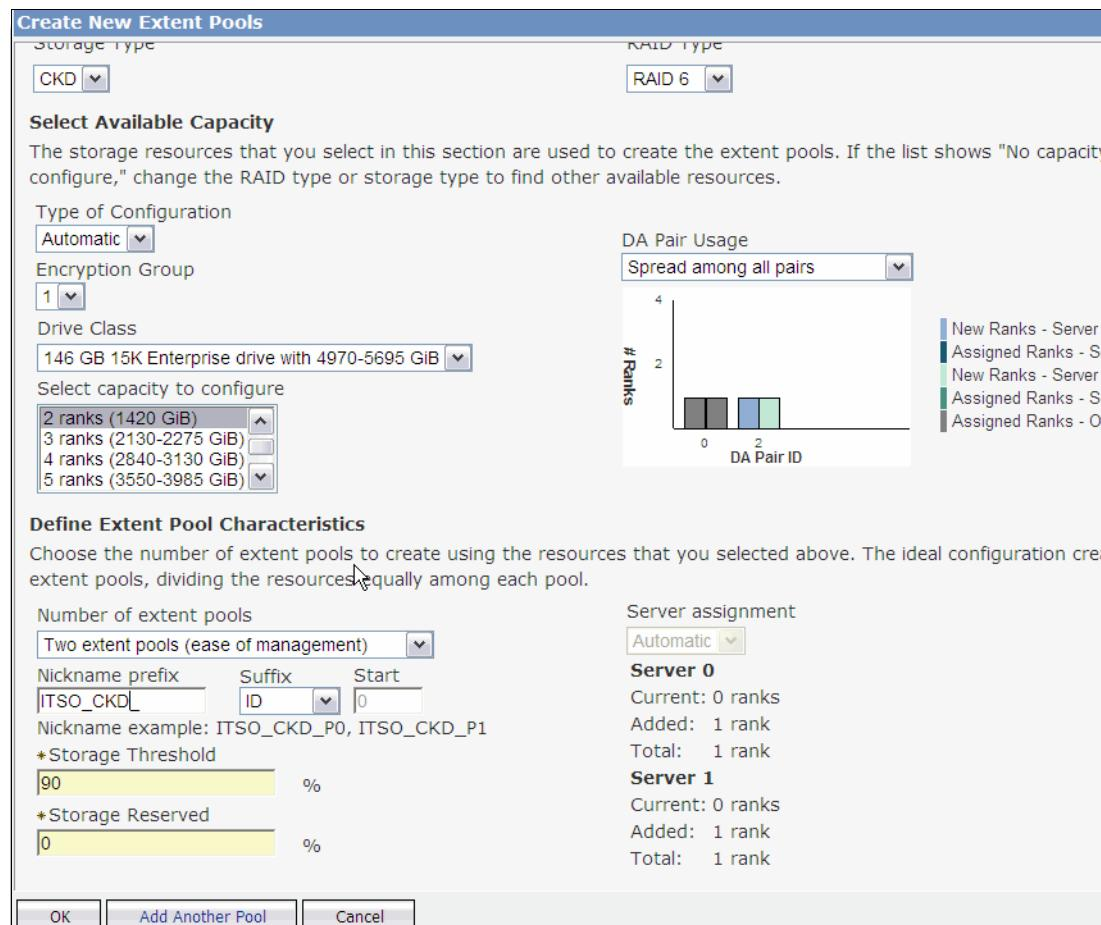

Figure 13-39 Create New Extent Pools for FB and CKD
- In our example (Figure 13-39), we create, for each storage type, two Extent Pools. Click **OK** to continue.